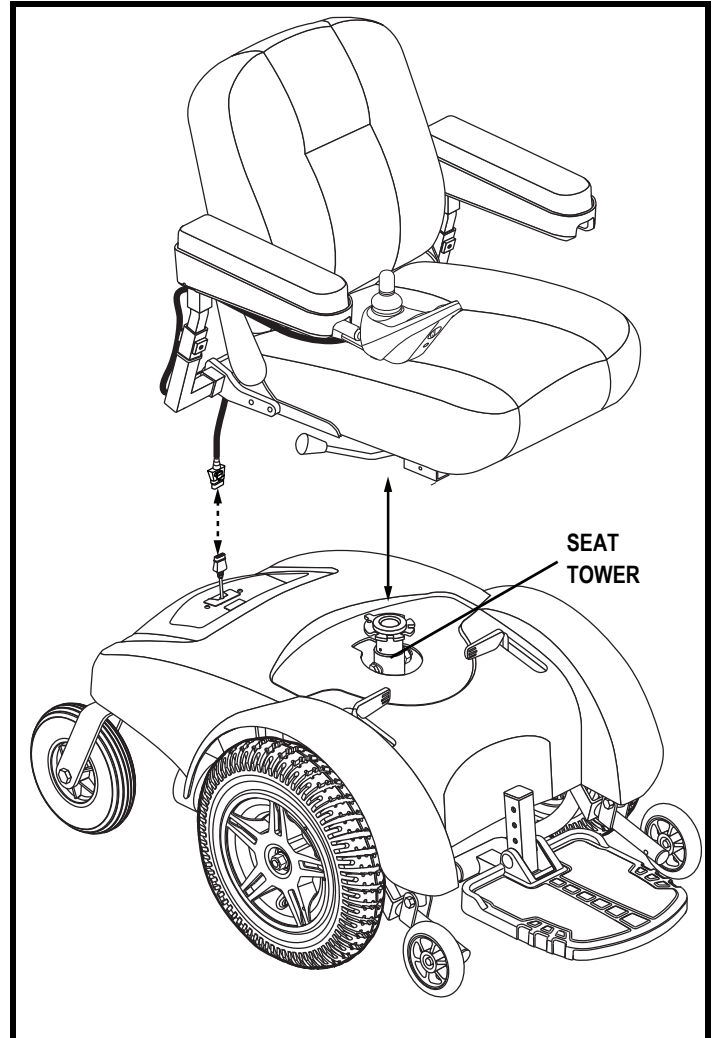

Figure 10. Seat Installation
1. Set the seat on the seat tower. See figure 10.
3. Install the controller into one of the armrests. Tighten the setscrew. See figure 10.